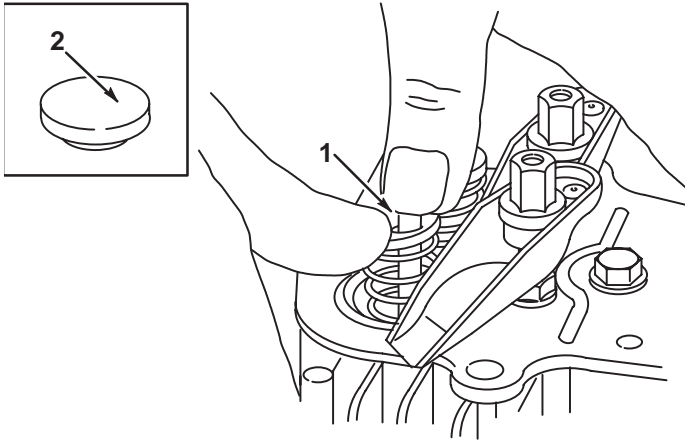

Fig. 52 – Removing Valves
2. Remove valve cap from valve stems, Fig. 52.
3. With thumbs, press down on valve spring retainer and spring to compress until large end of slot in retainer can line up with end of valve stem, Fig. 52.
5. Remove retainer, spring, and intake valve seal, if removing intake valve, Fig. 52.